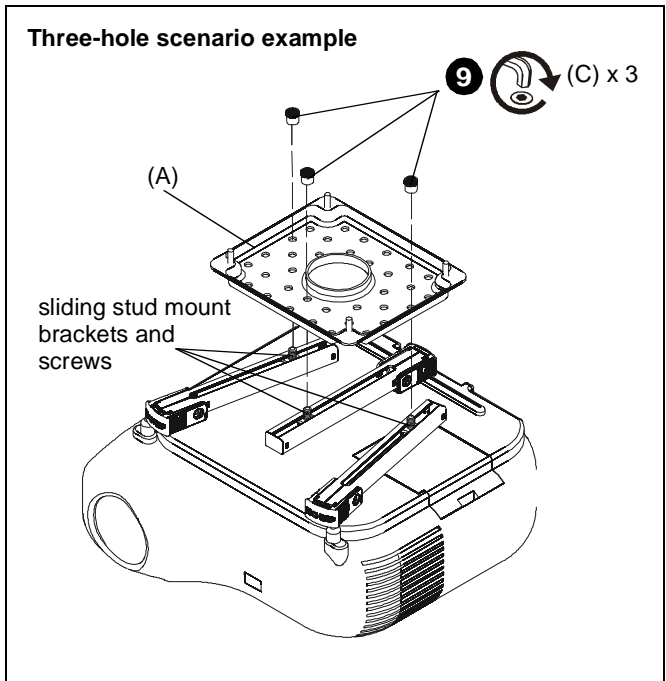

Figure 6
7. Maneuver legs so that sliding stud mount brackets and screws are towards the middle of the projector. (See Figures 6 and 7)
8. Position sliding stud mount brackets and screws so that SLBU or SLMU main plate (A) can be evenly mounted to
legs. (See Figures 6 and 7)
9. Use 1/4" hex key (T) to secure Allen nuts (C) to screws on sliding stud mounts. (See Figures 6 and 7)